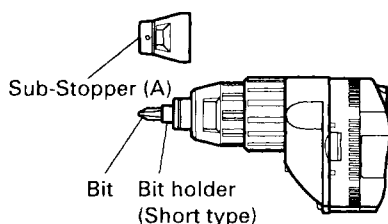

Fig. 8
2. Dismounting the bit (Fig. 8)